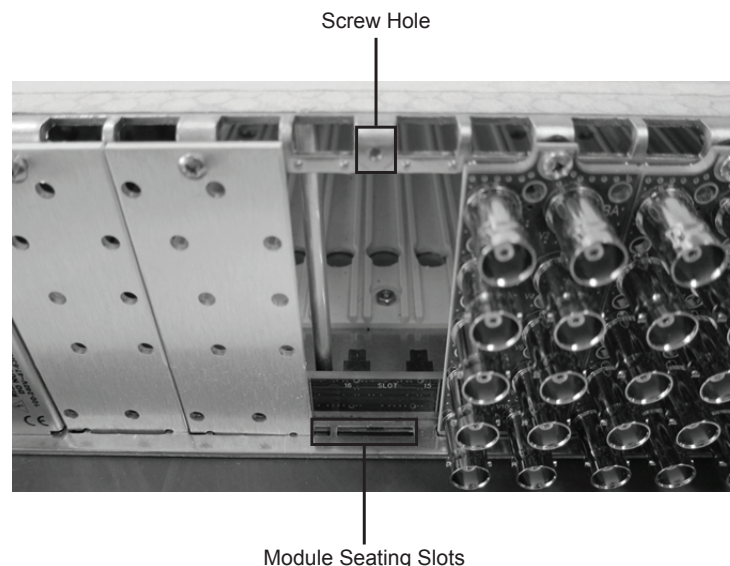

Figure 2.1 Rear Module Installation in an openGear Frame (TRA-8206 not shown)
4. As shown in **Figure 2.1**, seat the bottom of the rear module in the seating slot at the base of the frame's back plane.